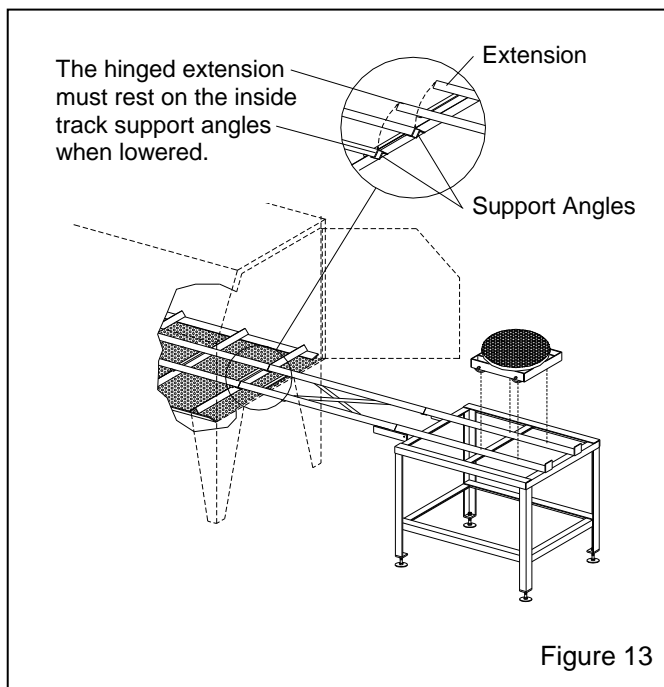

Figure 13
3.5.3 Position the track support table and extension as shown in Figure 13. When the hinged extension is lowered, the extension tracks must rest on the angled locating supports welded to the bottom of the inside tracks, and butt against the inside tracks.